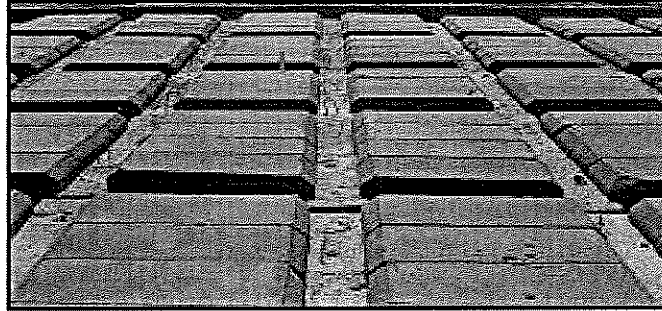

FIGURE 6.3
6.3 FIGURE 6.3 below shows an incomplete suspended floor.